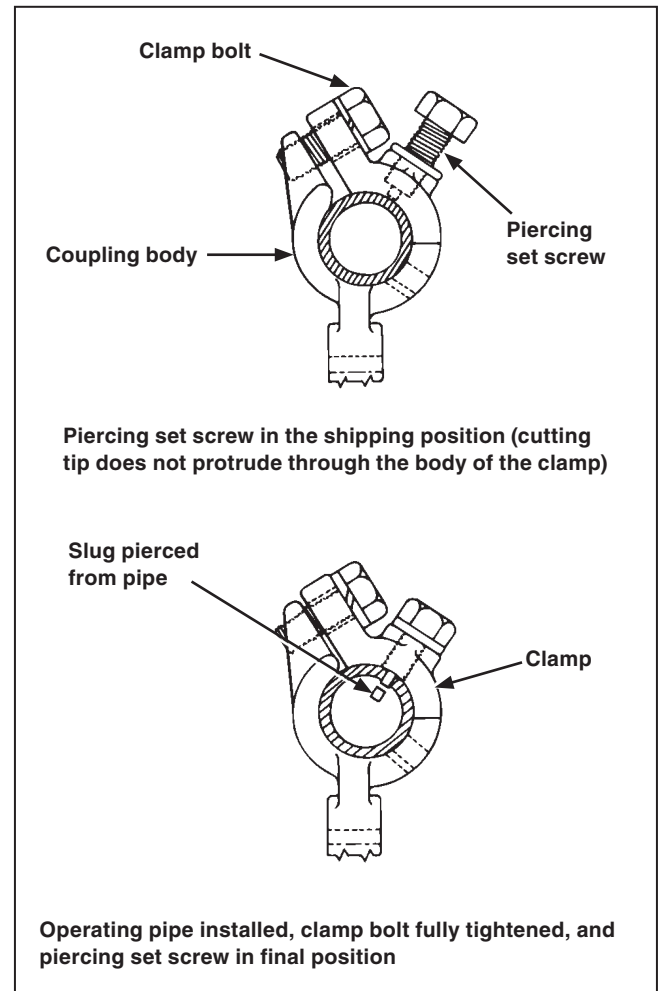

Figure 6. Installing the pipe couplings.
- Make sure the clamp bolt(s) are tight. See Figure 6.